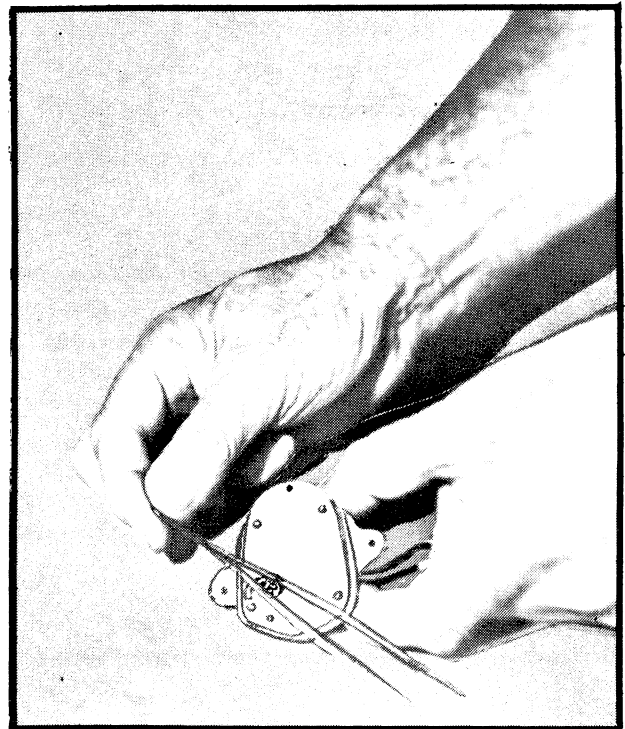

Figure 22 — Testing the Gear Train
- Using the inside portion of a tweezer, place over pinion and gently and carefully move tweezer toward the pinion so the hinged part of the tweezer exerts some pressure against the pinion. If, with only a slight pressure, pinion gear hesitates or rotates back and forth, the motor should be replaced, *Figure 22*.